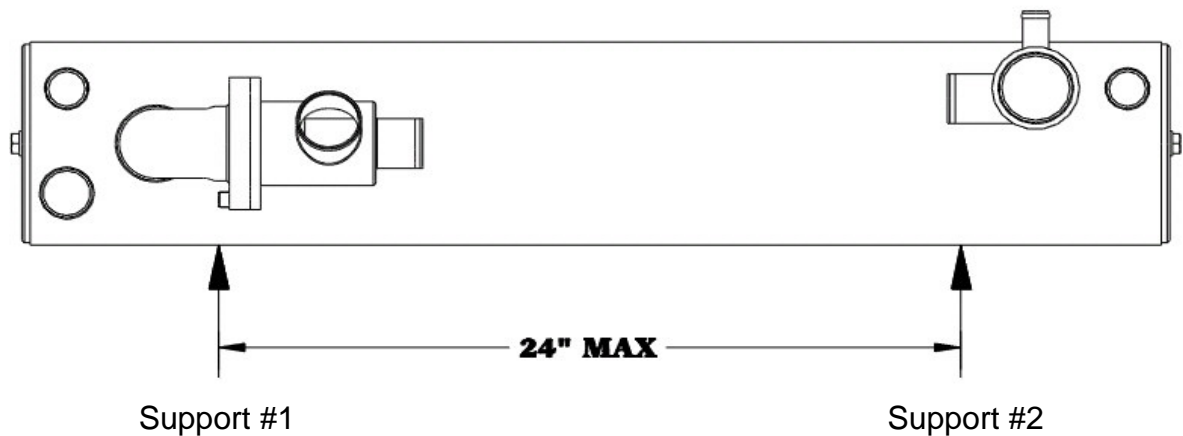

Figure 2
7. Mount heat exchanger (HX) as close to front of engine as possible so as to minimize the length of hoses required and the pressure drops introduced by hose lengths. The heat exchanger should be supported in two locations no more that 24" apart (see Figure 2).